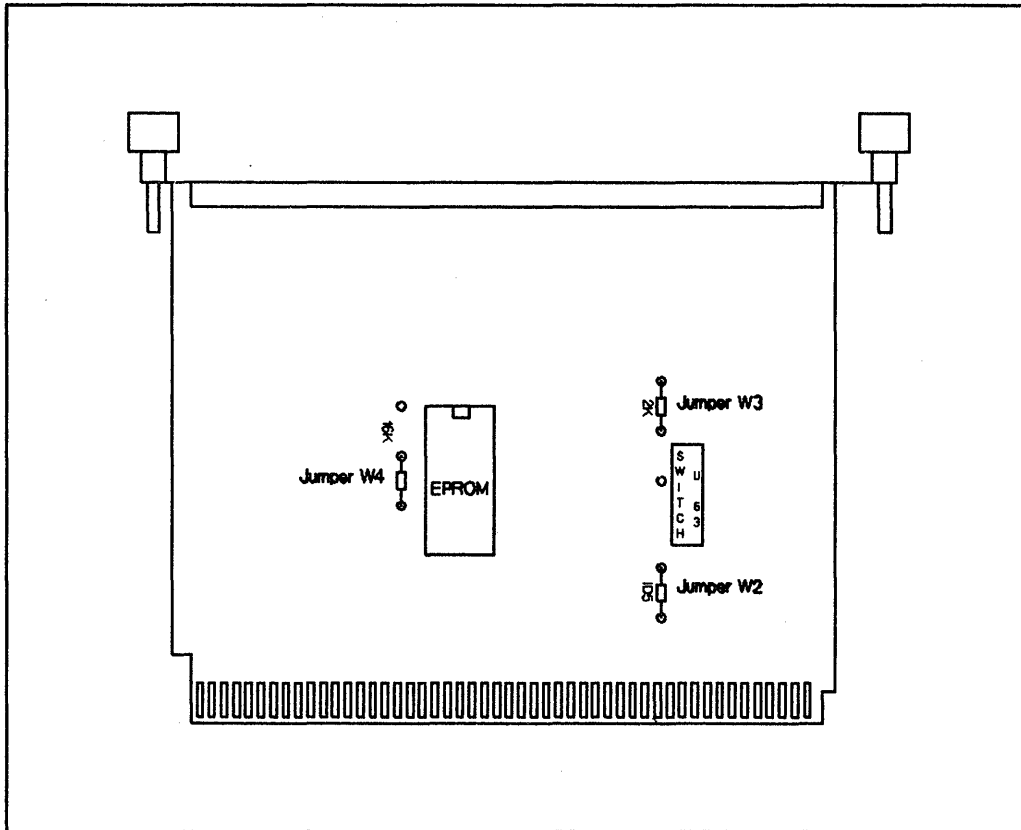

Figure 2-1. Key Component Locations
The EPROM is installed in a socket on the MUX card as shown in figure 2-1. Ensure that it is installed properly, and that it has not been damaged or loosened from its socket during shipping.
Up to three jumpers may be installed on the MUX card. These jumpers are installed at the factory; their locations are shown in figure 2-1 for reference only.
1. Set the switches on the card for proper operation in your system. See figure 2-1 for the location of the switch bank and the applicable paragraphs in this chapter for the switch settings.